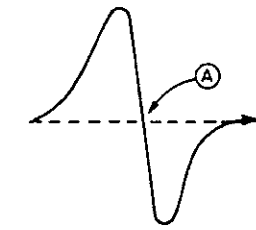

Fig. 3-7. S-Curve of the Focus
- (b) At this time, the output voltage ① changes from negative to positive.
- (c) Furthermore, the S-curve of the focus at this time changes according to Fig. 3-7.
The Focus Servo is applied with Point A of Fig. 3-7 as its operating point. The Focus Search operation is performed and the Focus Servo SW is set to ON while Point A of Fig. 3-7 is being crossed. In order to also prevent malfunction, the logical product of the operation and the Focus OK signal is obtained.